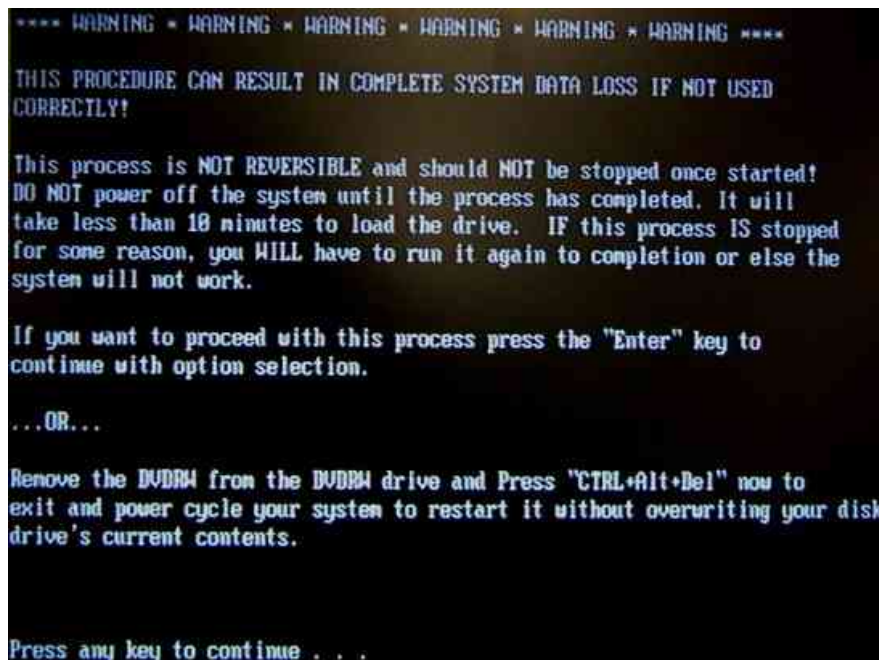

Figure 8-3 Update message
- 5.) Press any key to continue when below message display as shown in Figure 8-3 on page 8-4 .